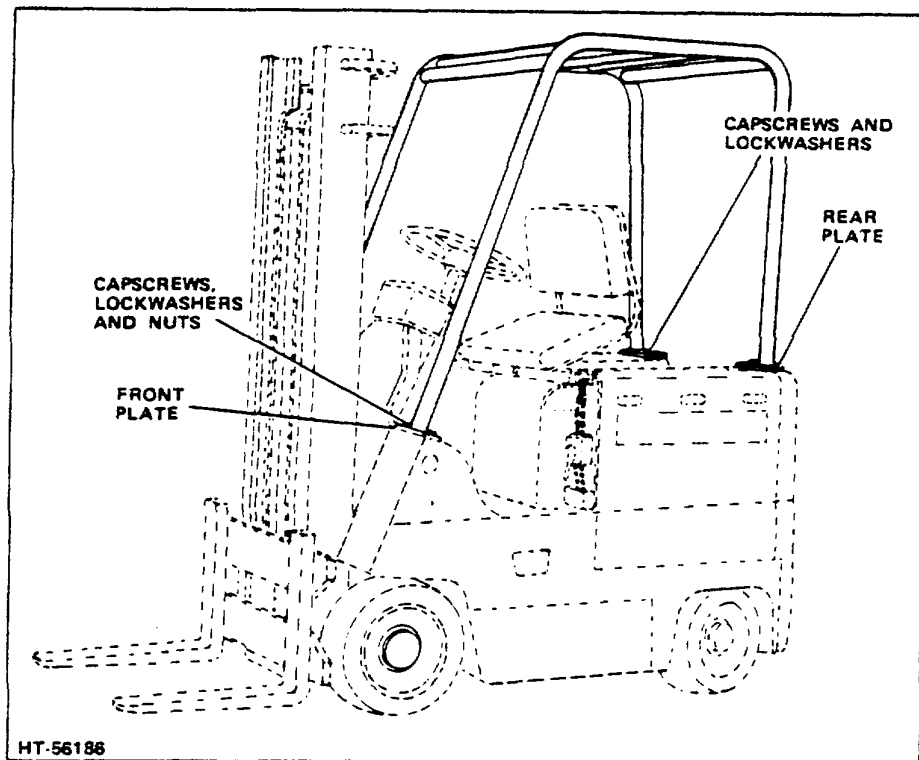

Figure 4-2. Overhead Guard Typical
- k. Inspect the overhead guard mounting plates (Fig. 4-2). Make certain they are securely mounted. Visually inspect the welded joints and structure for possible cracks.